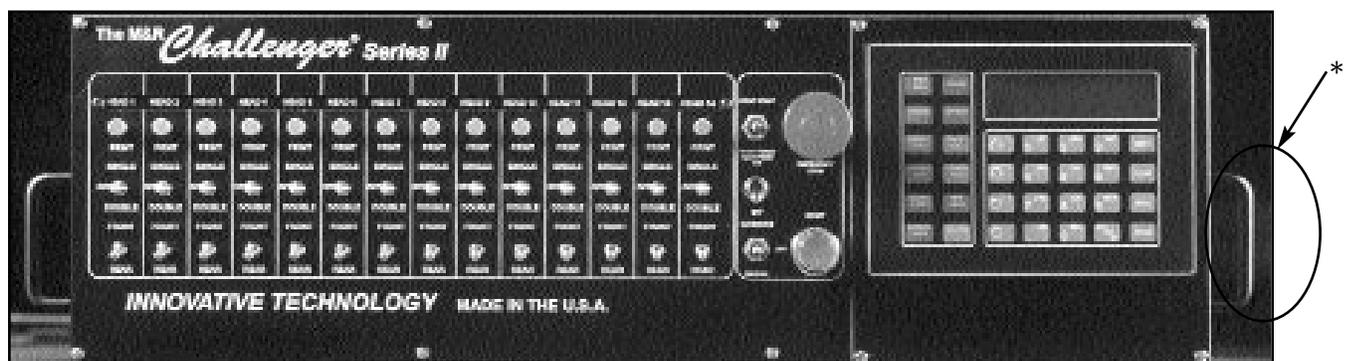

Fig. 1
* Main “ON/OFF” switch location. (See figure 1)